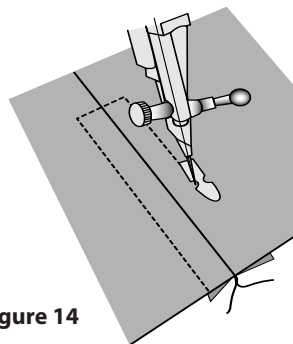

Figure 14
5. From the right side, using a zipper foot and starting at the seam line and $\frac{1}{8}$ inch from the zipper stop, stitch over approximately $\frac{3}{8}$ inch. (Figure 14) Pivot and continue stitching to the top.